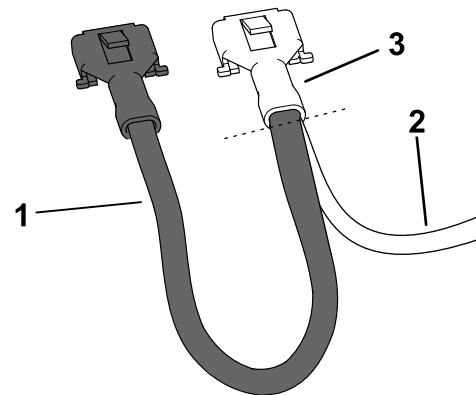

Figure 5
7. Cut the short wire connected to both terminals as close to the dual terminated terminal as possible (Figure 5). Discard the wire.
2. Install the existing wire harness terminal and the new wire harness terminal into the connector as shown in Figure 5.